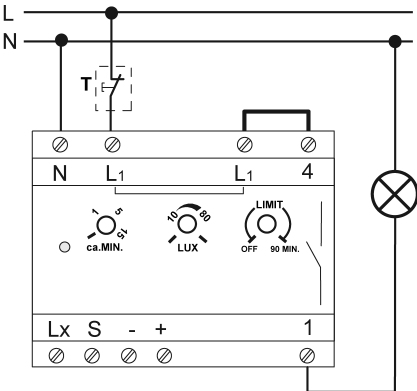

Figure 4: Connection diagram, 1-channel power pack
- Connect the power pack according to connection diagram (Figure 4). Optionally insert the installation button T, NC contact, in the supply cable of the power pack, in order to be able to switch the power pack on manually for the length of the run-on time.